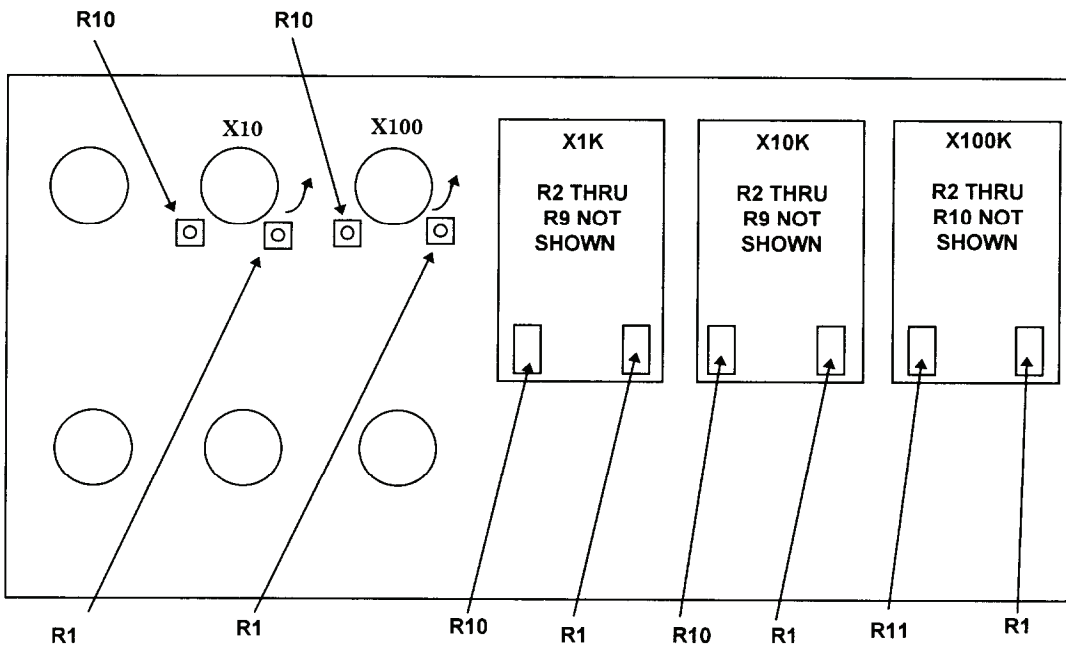

Figure 1. Test instrument - bottom internal view.
b. **Adjustments.** Adjust X10 R1 (fig. 1) for a 10.010 Ω multimeter indication (R).
b. Adjustments. Adjust X100 R1 (fig. 1) for a 100.010 Ω multimeter indication (R).
b. Adjustments. Adjust X1K R1 (fig. 1) for a 1.000010 kΩ indication on multimeter (R).
b. Adjustments. Adjust resistor X10K R1 (fig. 1) for a 10.000010 kΩ multimeter indication (R).
b. Adjustments. Adjust X100K R1 (fig. 1) for a 100.000010 kΩ multimeter indication (R).